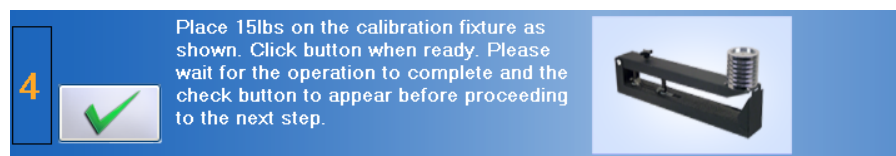

Figure 5-11. Hand Grip - Set the Weight
Step 5. Click on  to set the weight (Figure 5-11).